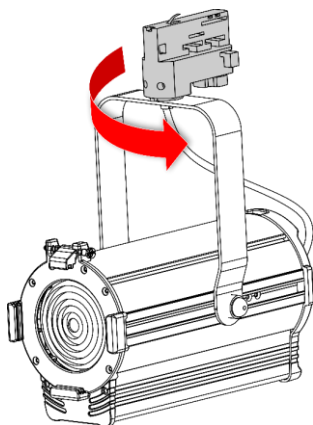
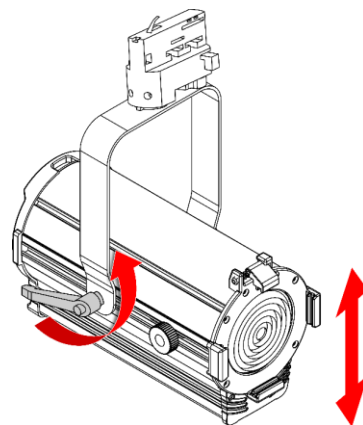

Fig. 11
Fig. 12
- 01) Pivot the device around the **track adapter (01)** to adjust the direction of the beam (see Fig. 11).
- 02) Turn the **adjustment handle (11)** counterclockwise to release it.
- 03) Tilt the device at the desired angle (see Fig. 12).
- 04) Turn the **adjustment handle (11)** clockwise to tighten it. Make sure that the device cannot move freely after the **adjustment handle (11)** is tightened.